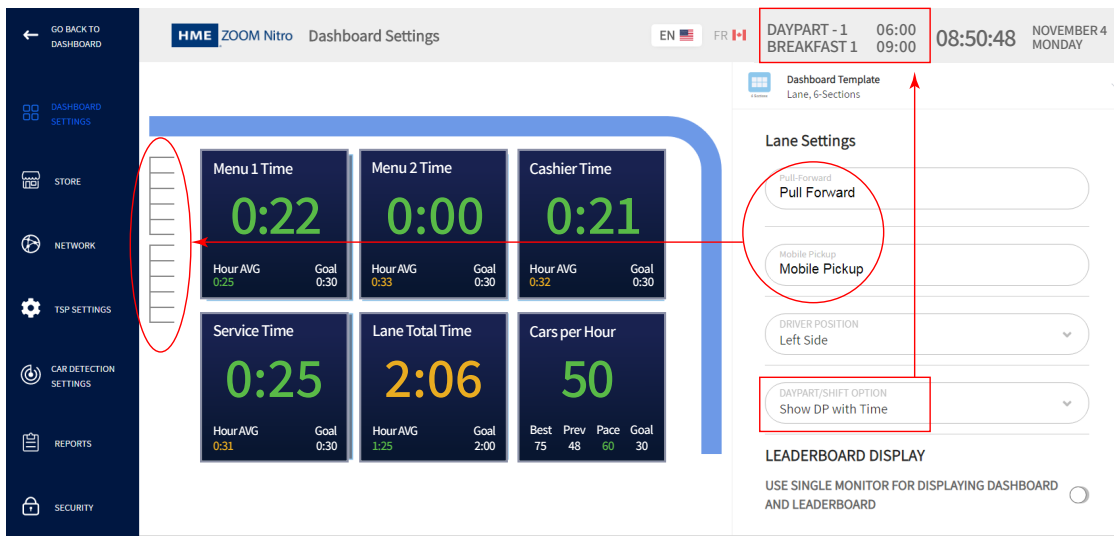

Fig. 3.4
<input type="text" value="DAYPART/SHIFT OPTION"/> Show DP with Time	DAYPART/SHIFT OPTION: Different combinations of Daypart (DP), Shift, and Time can be selected here to be displayed at the top of your Dashboard screen (see Fig. 3.4).